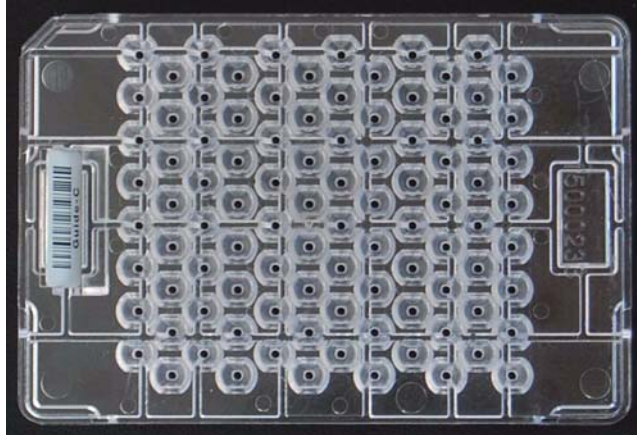

Figure 49 Guide-C Robot Tip Alignment Guide
2. Make sure you have the correct Robot Tip Alignment Guide for the GoldenGate assay. The guide barcode should say Guide-C on it (Figure 49).